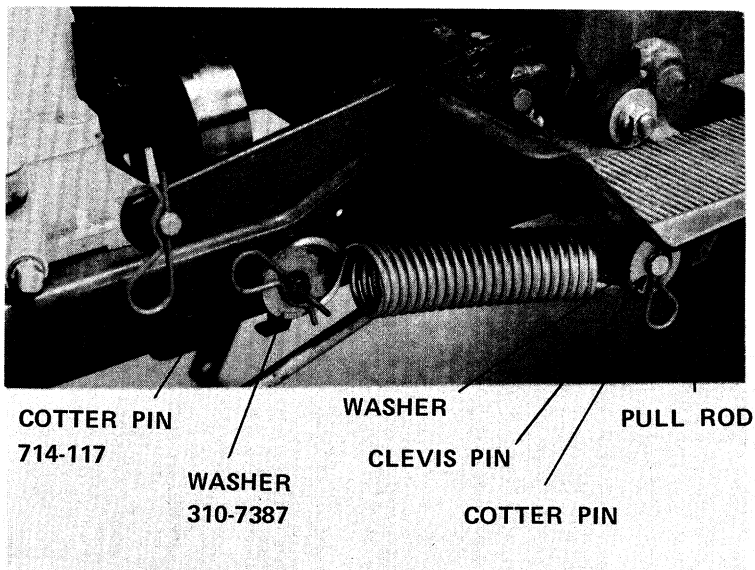

Figure 1
3. Remove cotter pin, flat washer and pull rod from clevis pin at location shown in figure 1.
4. Hook one end of spring on clevis pin as shown in figure 1.
5. Place the pull rod, flat washer and cotter pin back on the clevis pin as shown in figure 1.
7. Secure the spring with a flat washer (310-7387) and a cotter pin (714-117), which is provided with the springs. (See figure 1)